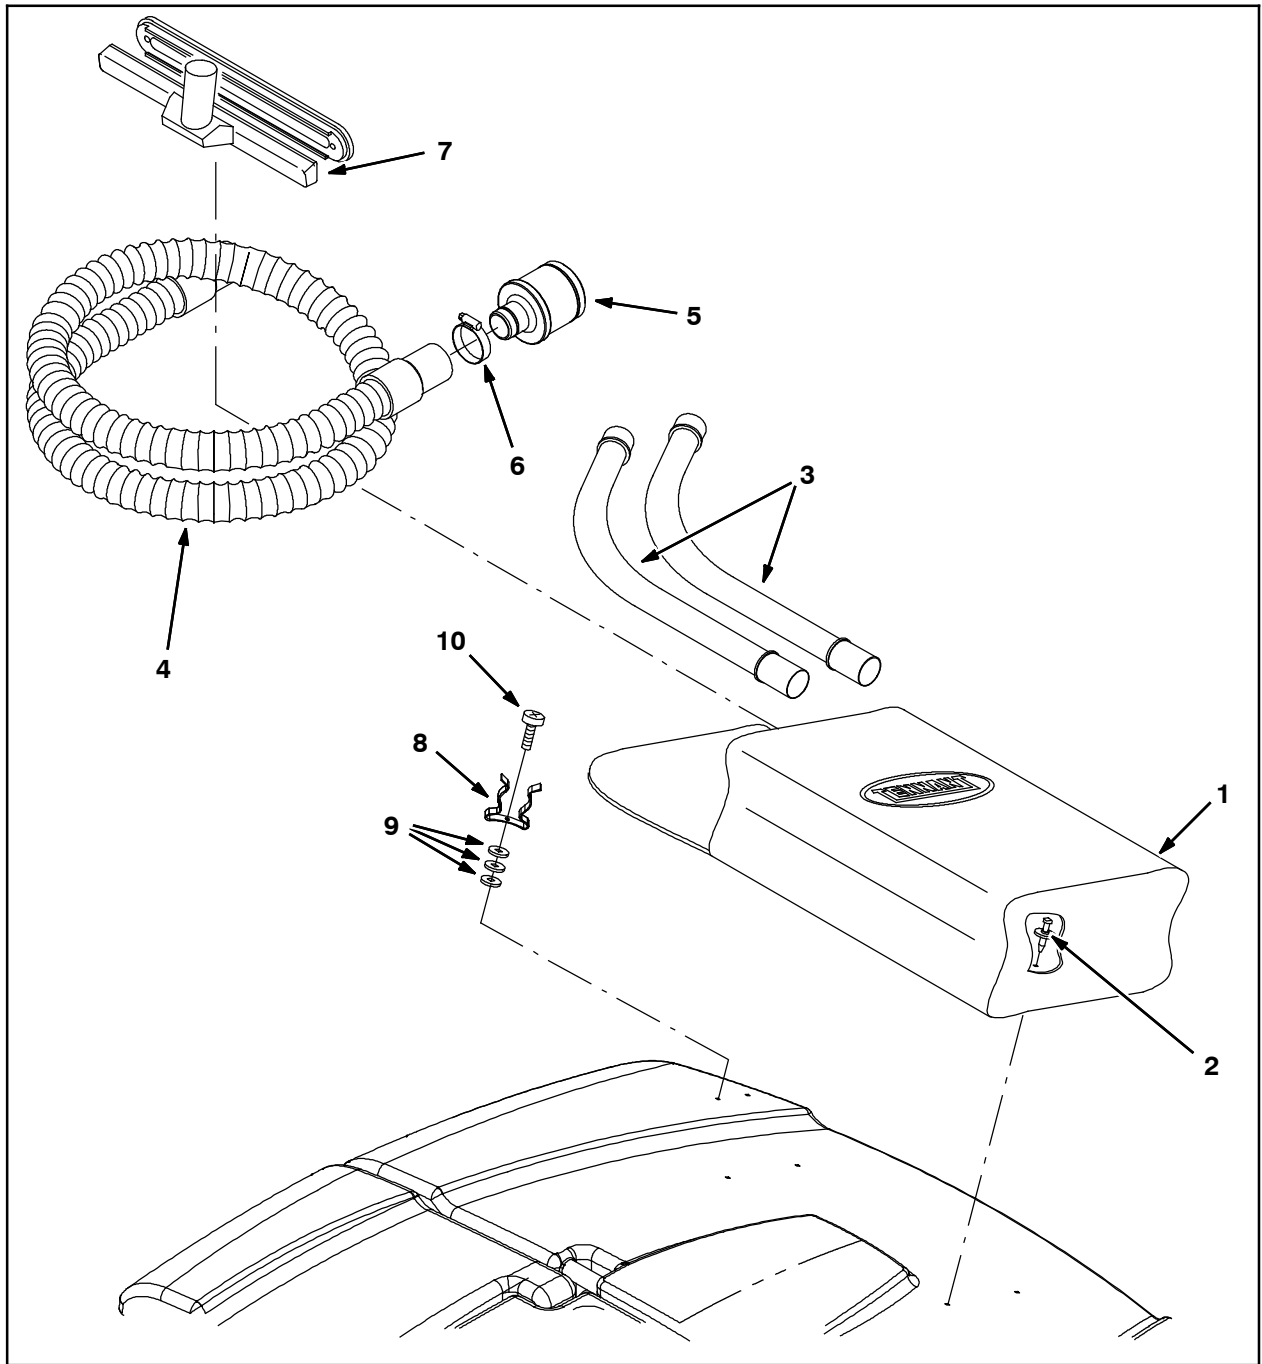

FIG. 3
3. Use four plastic rivets (2) to install the bag (1) onto the recovery tank cover. (Fig. 3)
4. Use a hex screw (11) and three flat washers (10) to install each finger grip clip (9) onto the recovery tank cover. (Fig. 3)
5. Install the squeegee shoe (7) onto the wand nozzle (8). (Fig. 3)
6. Slide the hose clamp (6) onto the hose (4), insert the straight fitting (5) into the hose, and tighten the hose clamp to secure the straight fitting to the hose. (Fig. 3)
7. Insert the hose (4), wand nozzle (8), and vacuum wand tubes (3) into the bag (1) and secure the ends of the vacuum wand tubes sticking out of the bag into the finger grip clips (9). (Fig. 2 / Fig. 3)